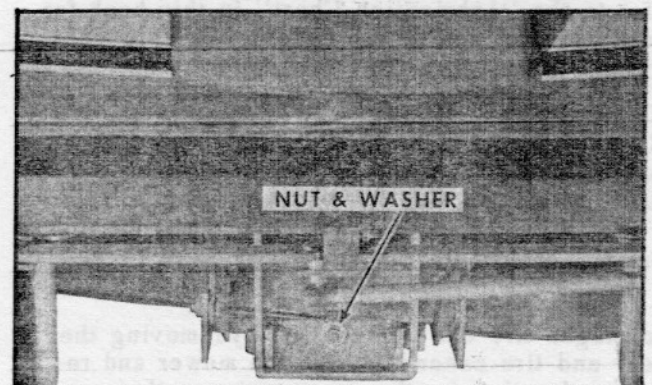

FIG. 18
3. Remove the nylok nut and washer from pivot shaft assembly to disconnect cutting head from mower. (See Fig. 18)